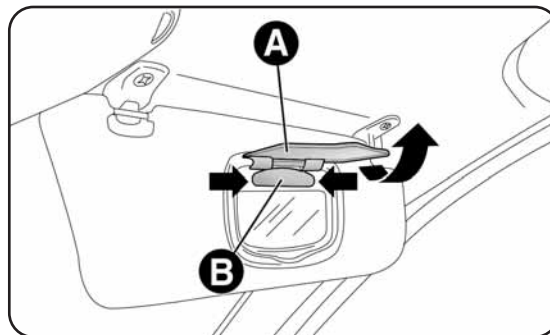

fig. 35
- open the cover A-fig. 35 on the mirror;